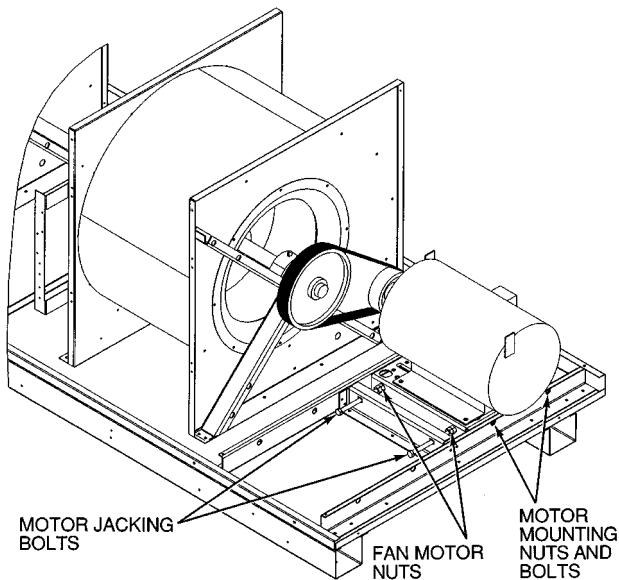

Fig. 35 — Belt Tension Adjustment
3. Loosen fan motor nuts. See Fig. 35.